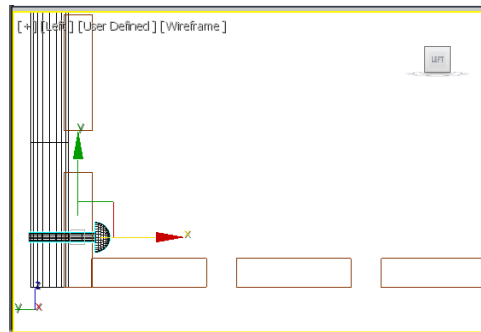

Figure 2-80 Rotating rivet001 in the Left viewport
2. In the **Offset:Screen** area of the **Rotate Transform Type-In** dialog box, enter **-90** in the **Z** spinner and press ENTER; *rivet001* gets rotated, as shown in Figure 2-80. Now, close the **Rotate Transform Type-In** dialog box.